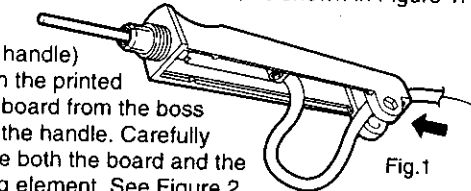

Fig.1
- (Handle B only) Carefully push the cord assembly toward the head of the handle, as shown in Figure 1.